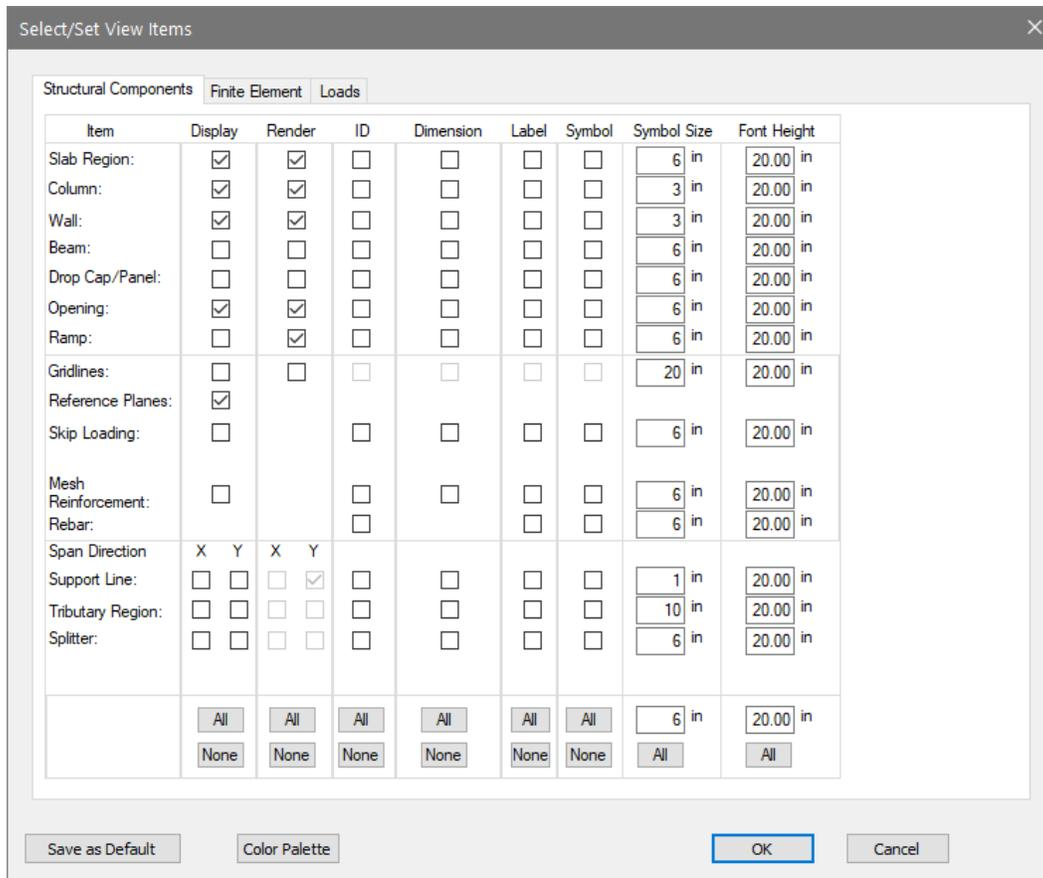

Figure 7-4
- On the *Structural Components* tab, make the selections as shown in **FIGURE 7-4**.